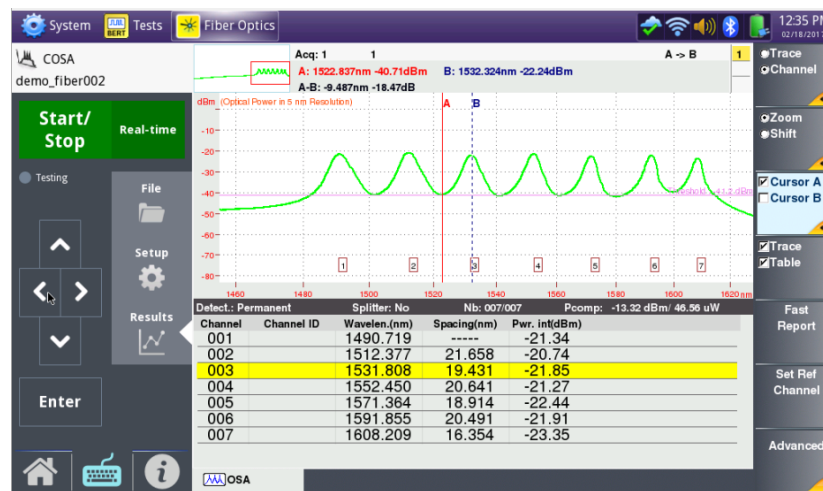

Figure 7: COSA Trace and Summary Table
- Tap the **START/STOP** button to start the test. The COSA will sweep the entire CWDM wavelength range. Results will be shown in graphical and tabular formats as shown in **Figure 7**.